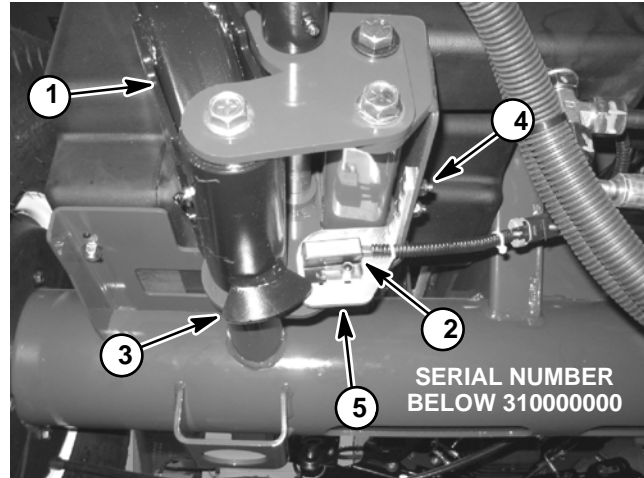

Figure 21
The up limit switch is a normally open proximity switch that closes when the cutting units are in the lowered position. A bracket on the front, right lift arm acts as the sensing plate for the up limit switch (Fig. 21).
For machines with serial numbers below 310000000 (Fig. 21), the distance between the up limit switch and sensing plate on lift arm should be from 0.048" to 0.077" (1.2 to 1.9 mm). If distance is incorrect, loosen two (2) lock nuts that secure switch bracket to machine frame. Position bracket to allow correct clearance between switch and sensing plate. Tighten lock nuts to secure adjustment.